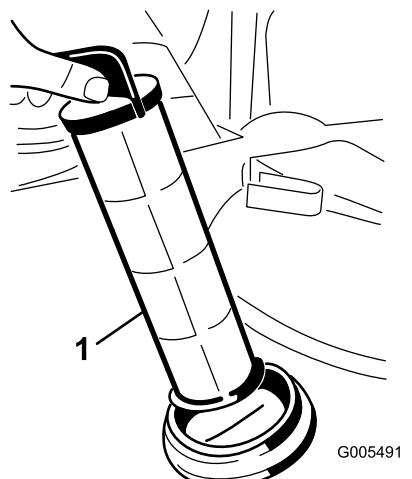

Figure 67
4. Pull the suction strainer out of the strainer housing in the tank (Figure 67).